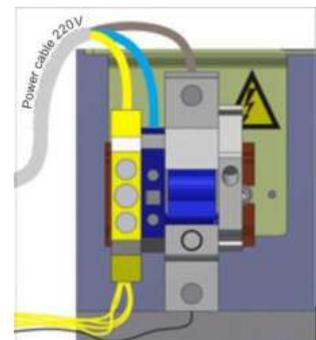

Fig. 24- Connection of power supply cable
a) Power supply cable ~230 V to be connected (Fig. 24):
- Neutral (N) to be connected to terminal ~230V (N);
- Earth (PE) to be connected to earthing terminal (PE)